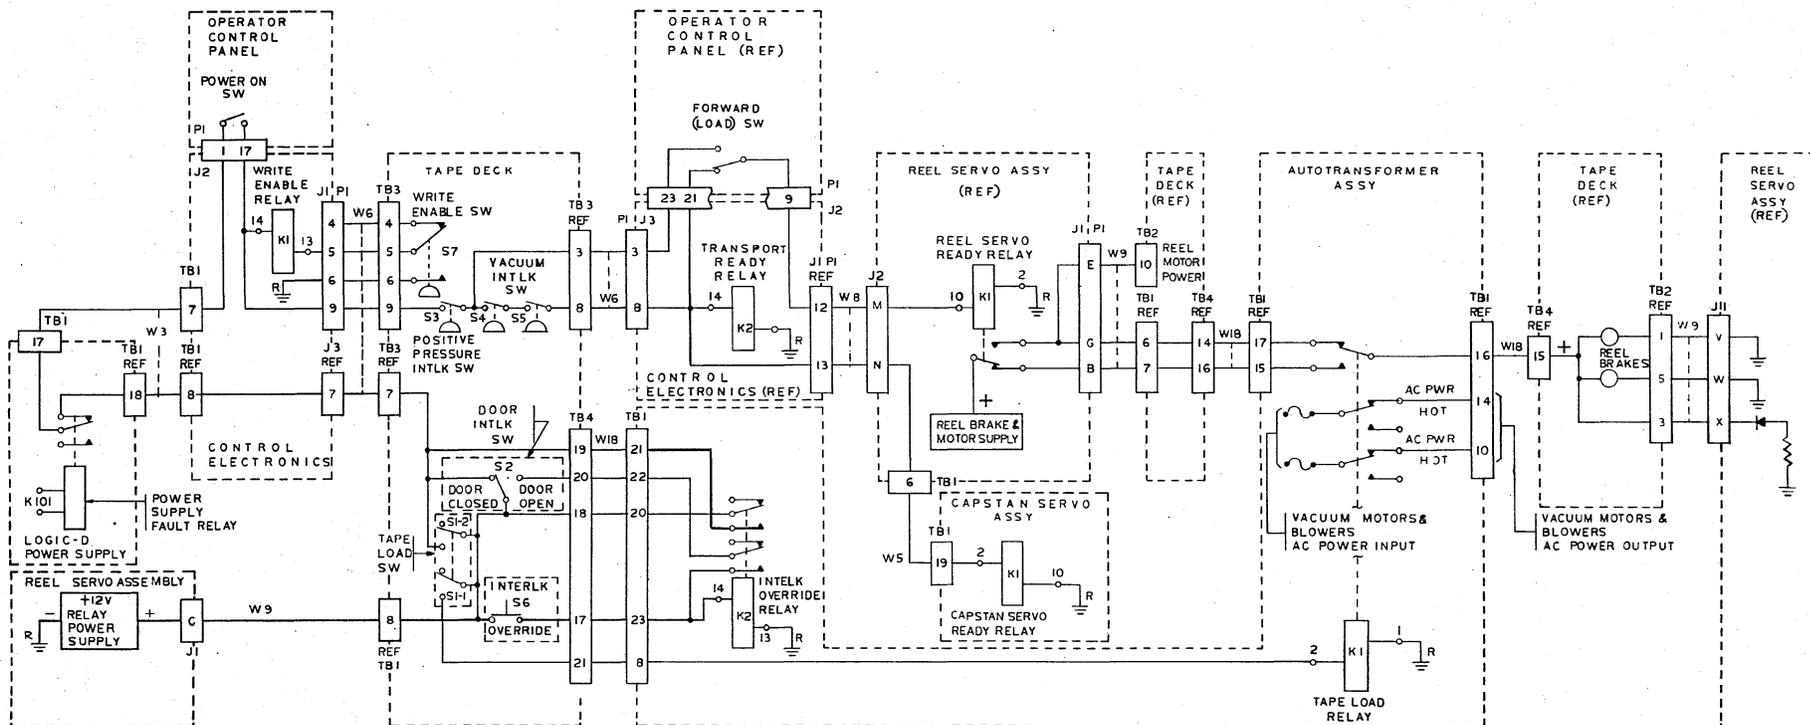

Figure 4-10
When power is applied to the tape transport, the transport is not ready for operation until the transport ready relay is energized through the transport-ready-relay interlock circuits. (See Figure 4-10.) The transport-ready-relay interlock circuit is complete when the power supplies are operating, the reel access door interlock switch is closed, and the vacuum and positive pressure switches sense proper vacuum and pressure. While the transport ready relay is not energized, an UP level is applied to the TRANSPORT READY input to the local/remote logic (LL) PCB. With the UP level applied to the TRANSPORT READY input, the MASTER RESET output from LL is at the UP level. The UP level MASTER RESET prevents any tape motion by resetting and inhibiting the outputs of the forward/reverse logic (FL) PCB and the rewind logic (RL) PCB. The UP level on the TRANSPORT READY input sets LL for local mode operation. When all interlocks are closed the transport ready relay is energized, applying a DOWN level to the TRANSPORT READY input of LL which causes the MASTER RESET signal to go to a DOWN level. The LOCAL pushbutton indicator is lighted, indicating